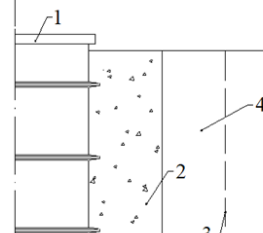

figura 2.
- **Zone necarosabile:** capac plastic (vezi figura 2).